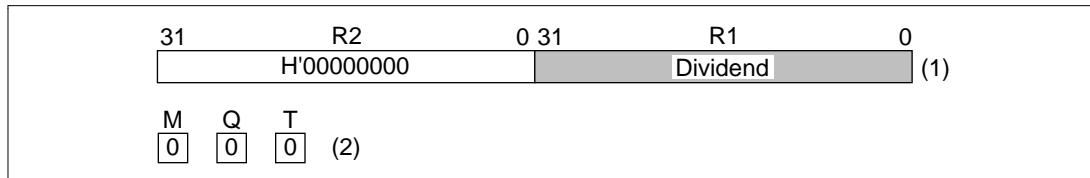

Figure 3.42 Initial Setting (DIVU32Q)
- Takes R2's upper 32 bits and zero-extends the dividend to 64 bits (figure 3.42 (1)).
- Sets the M, Q, and T bits used in one-step division to unsigned division values (figure 3.42 (2)).